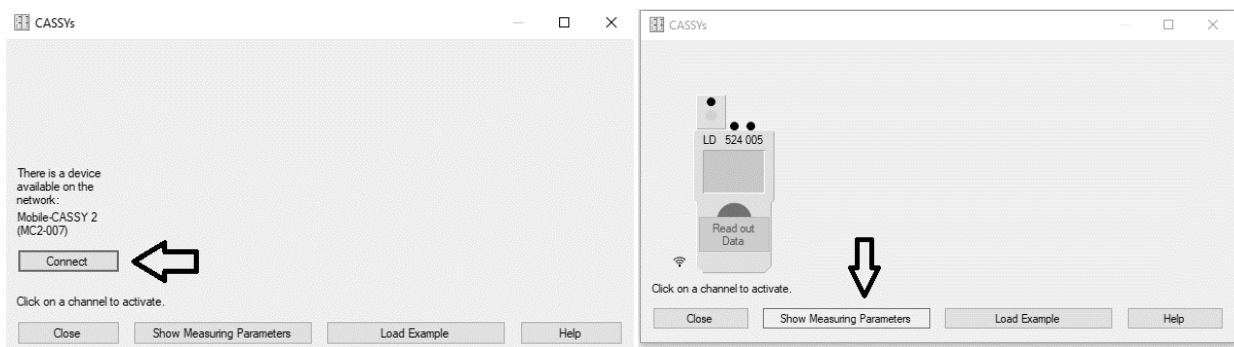

Fig. 15.3. Connecting between a personal computer and the CASSY device
4. Open the CASSY's program on the PC. Click on connect bottom to connect to the Mobile-CASSY. Then this window will appear, select “**Show Measuring Parameters**” (Fig. 15.3).